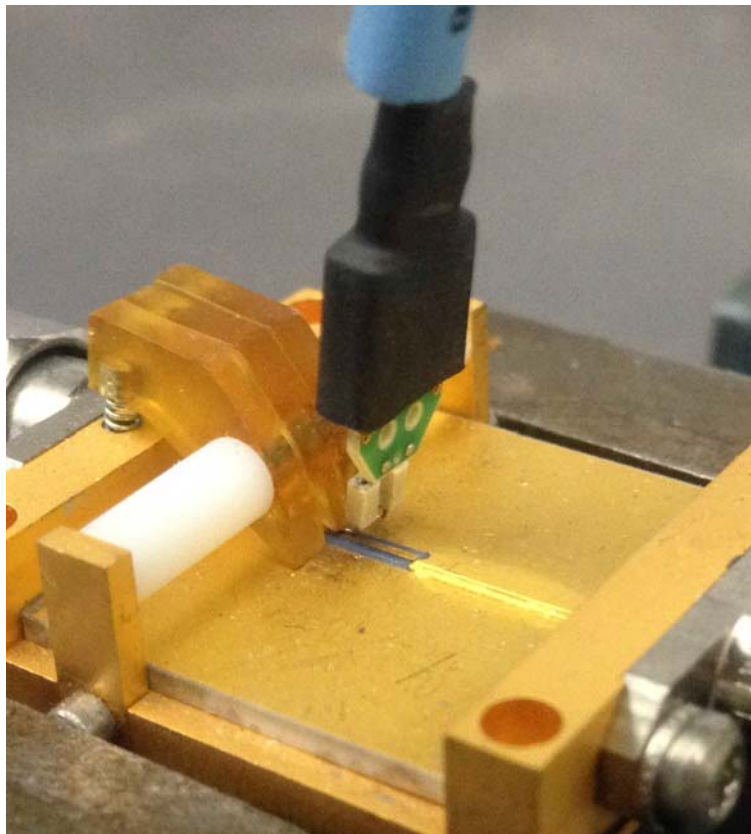

Figure 91 Close-Up of Tip Wires Positioned Under Pincher
- c Depress the actuators on the pincher and carefully insert one wire under the center pincher and the other wire under one of the side pincher. Either polarity of the probe can be tested and will yield the same results (but opposite phase) if the probe is working properly. **Figure 91** on page 110 shows a close up of the tip wires positioned under the pincher.